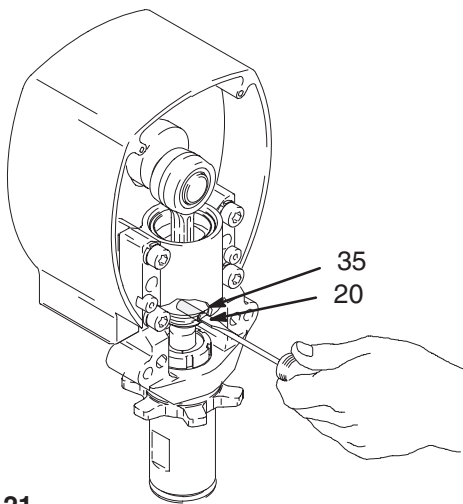

Fig. 21 7675A
3. Fig. 21. Use screwdriver to push retaining spring (35) up and pin (20) out.
4. Fig. 21. Push out pin.